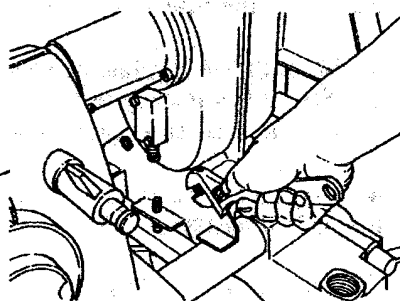

Fig.14
11. Adjust the support bracket (30) to touch the tops of the way tubes.
12. Securely tighten the two bracket support screws (28) as in Fig.14.